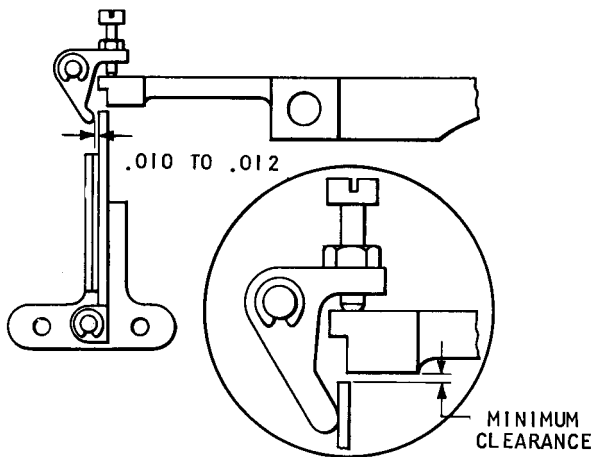

Figure 33. Clutch Armature Knockoff
8. With the cam follower on the high dwell, set the armature knockoff for .010" to .012" clearance between the armature and the knockoff (Figure 33).